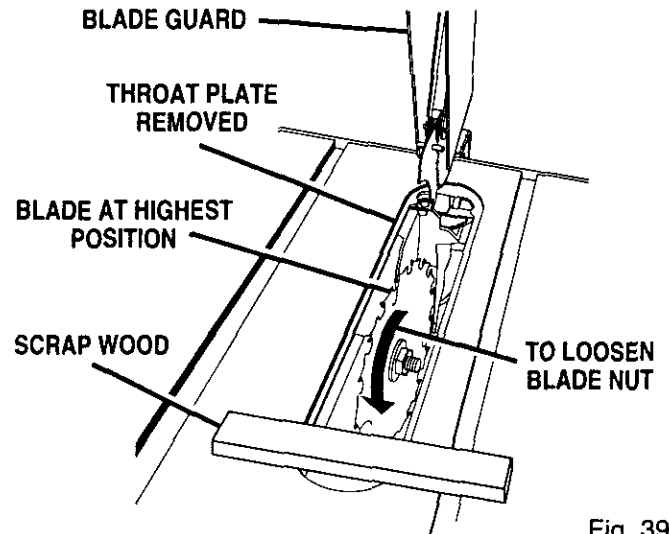

Fig. 39
See Figures 39, 40, and 41.
- Raise the blade to its highest position by turning the height handwheel clockwise. Angle the blade straight up by loosening the bevel lock handle and turning the bevel handwheel. Wedge a piece of scrap wood against the front of the blade. See Figure 39.